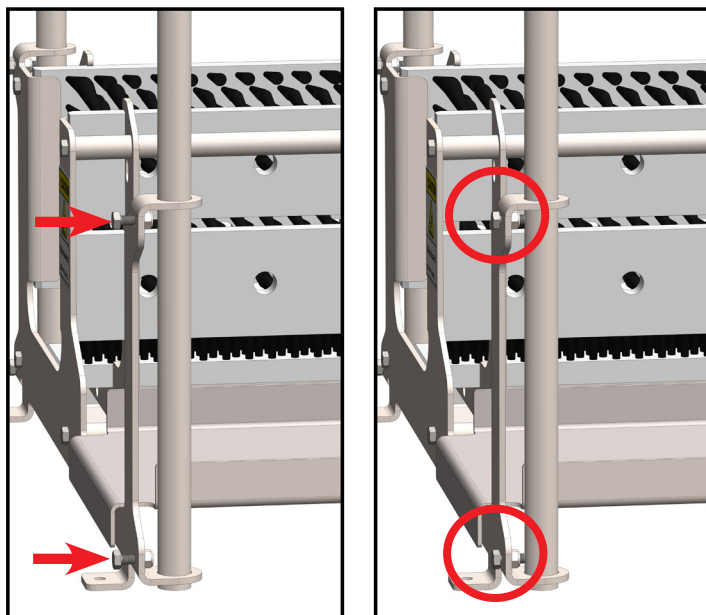

Fig. 4.2: Handrail stabilization bolts
2. Using two 1/2" wrenches tighten the bolt through the locknut until the bolt bottoms out against the handrail to secure in place [Figure 4.2].